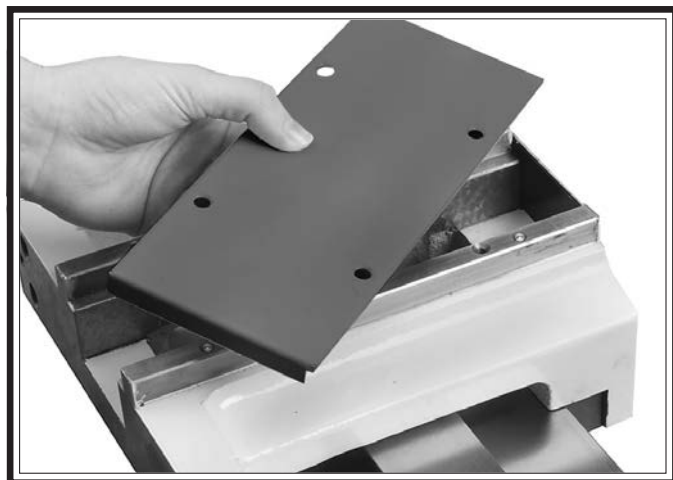

Figure 7. Attachment body top cover removed.
8. Remove the four flat head screws that secure the top cover, then remove the cover (see **Figure 7**).